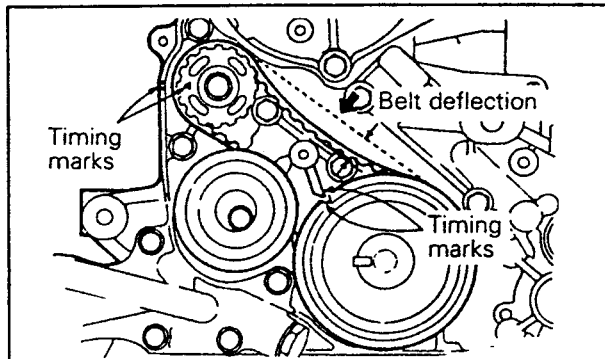

Fig. 1.54. — Checking the tension of the small timing belt. Press against the belt at the position shown to check the deflection.
- Push the flange located underneath the tensioner in the direction of the arrow in Fig. 1.54 until the belt is sufficiently tensioned. In this position tighten the tensioner bolt. Do not rotate the shafts after the bolt has been tightened.
- Check again if the timing marks are still in alignment on timing gearwheels and front case and press with the forefinger against the centre of the belt, at the point shown in Fig. 1.54. The belt must deflect by 5 to 7 mm (0.20 - 0.28 in.). If this is not the case, re-adjust the tensioner pulley accordingly.